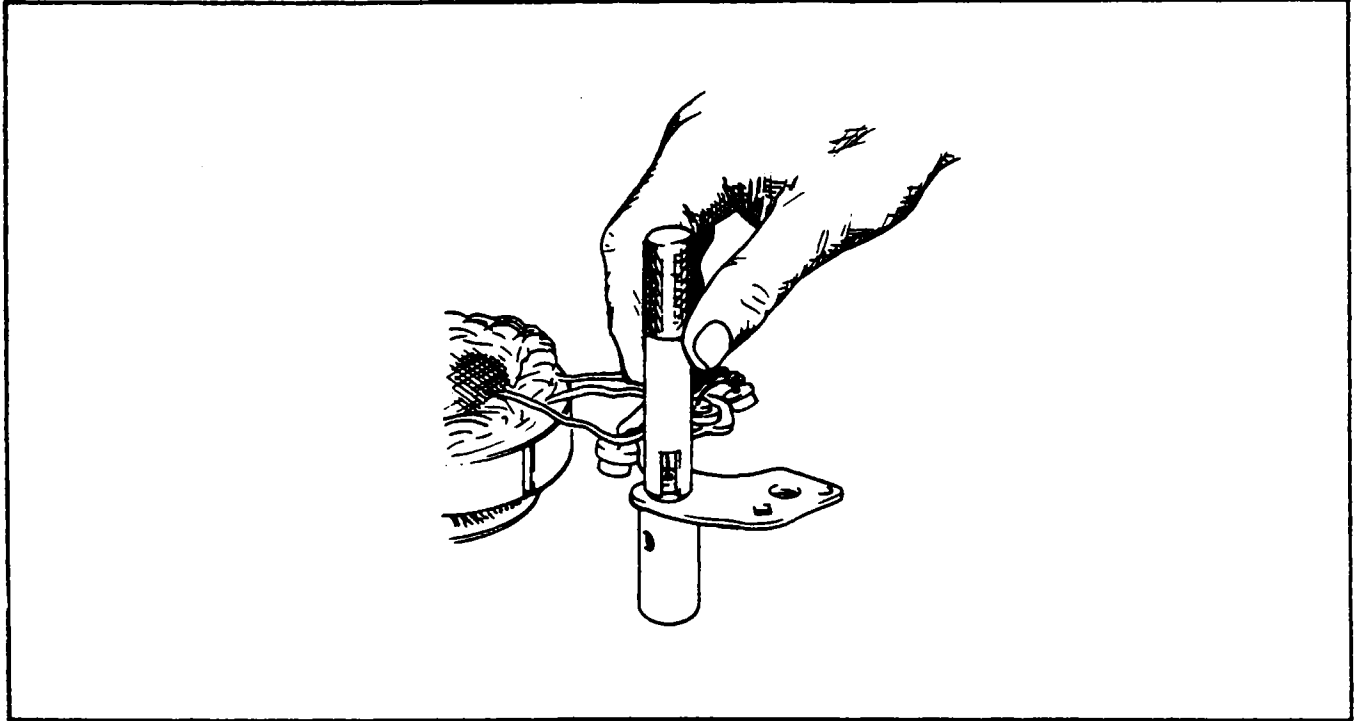

Figure 11-6. Installation of Rectifier
- b. Carefully install the rectifiers in the slip ring end head or rectifier mounting plate by supporting the unit and using the special tools illustrated in Figure 11-6.